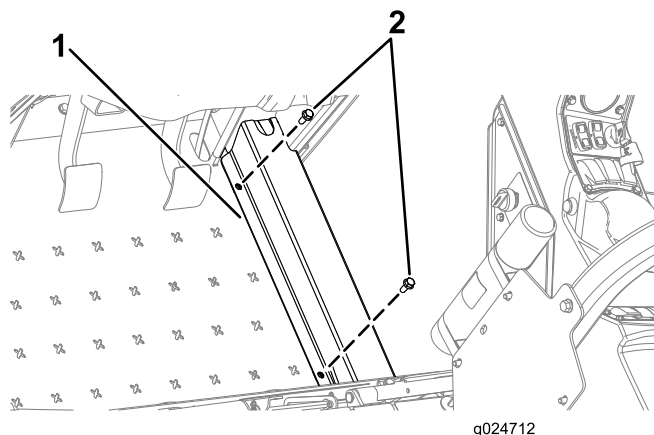

Figure 28
1. Remove the 2 bolts that secure the hose cover to the machine and remove the hose cover (Figure 28).